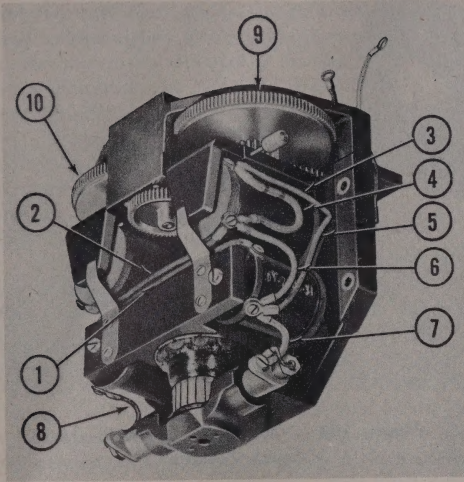
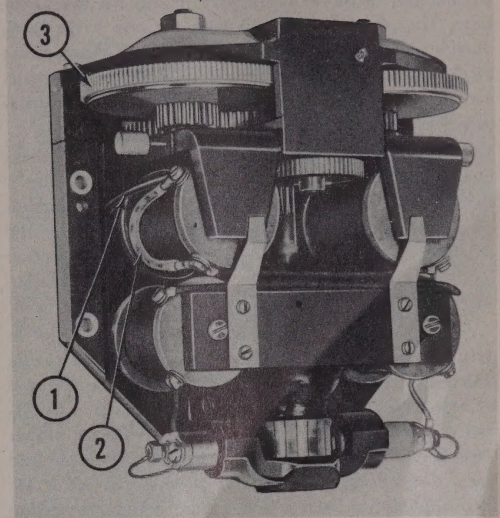

Figure 279 — Torque Motor Wiring, Bronze Gear Side
Figure 280 — Torque Motor Wiring, Steel Gear Side
1. (See figure 279.) Using two 2-56x5/16-inch binding-head screws and flat washers, attach the black lead wire (1), which connects the top terminals of the two torque motor field coils. Then, loosen the fillister-head screws which hold the field coils to the frame, and rotate the coils to take out any slack in this lead. Then, retighten the fillister-head screws, making sure that the terminal lugs do not touch the frame at any point.
2. Using two 2-56x5/16-inch binding-head screws, attach the black lead wire (2) between the lower terminals of the two clutch magnet coils to the magnets, making sure that one terminal lug of a clutch magnet damping resistor (4, figure 279 and 2, figure 280) is also connected at this point under each of these binding-head screws. Then, loosen the two fillister-head screws which secure the magnet coils to the frame, and rotate the coils to take out the slack in the terminal wire connecting the two coils together. Then, retighten these
3. (See figure 280.) Using a 2-56x5/16-inch binding-head screw, attach the 9/4-inch black terminal lead (1) and the other end of the clutch magnet damping resistor (2) to the remaining terminal on the clutch magnet under the steel gear assembly (3), and run this black lead wire through the hole in the frame provided.
4. (See figure 279.) Using a 2-56x5/16-inch binding-head screw, attach the 63/4-inch red lead wire (3) and the loose end of the clutch magnet damping resistor (4) to the remaining terminal on the magnet coil under the bronze gear (9), and run the red lead wire through the hole in the frame provided.
5. Using a 2-56x5/16-inch binding-head screw, attach the 95/8-inch long red lead (5), the 21/4-inch red lead (6), and the 15/8-inch red lead (7) to the remaining terminal on the torque motor field coil which is under the bronze gear assembly (9). Then, attach the